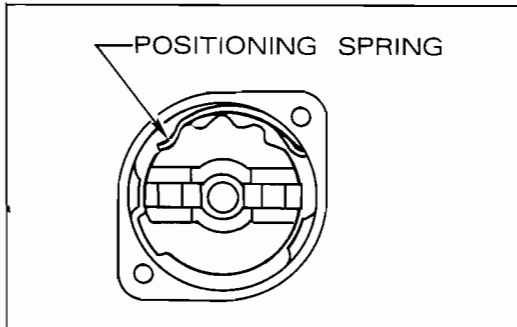

Figure 6. Proper Positioning of Rotor
3-31. Insert rotor (4) into housing (1) so that one of its positioning notches will align with the end of the position spring. (See Figure 6) Using a pointed tool, press against